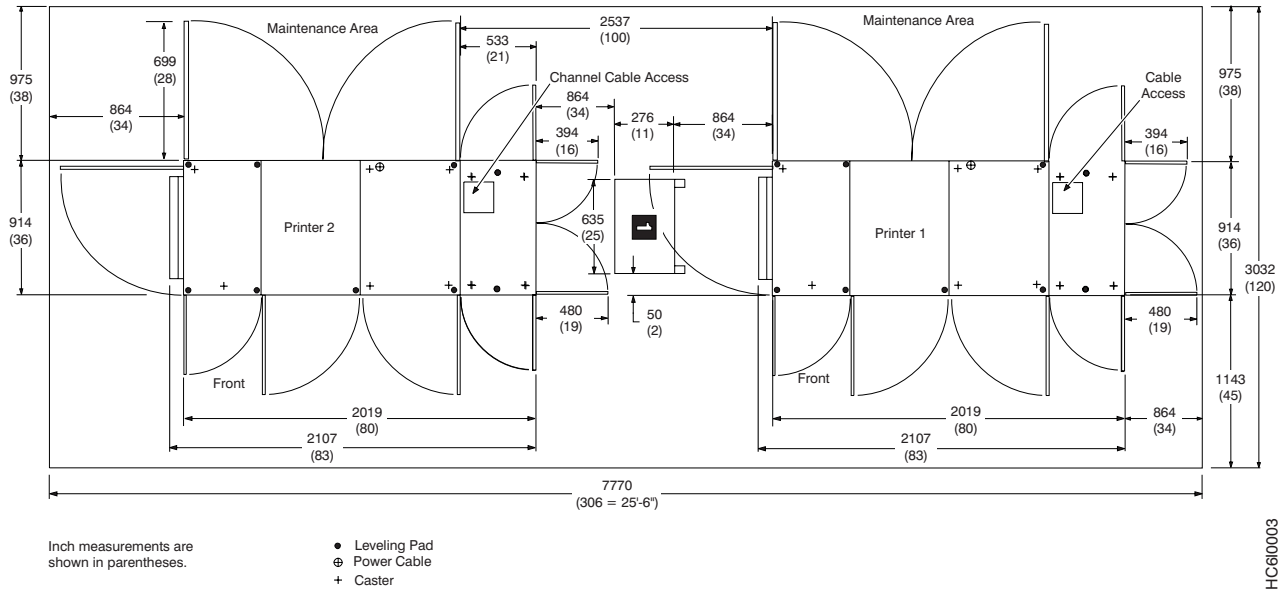
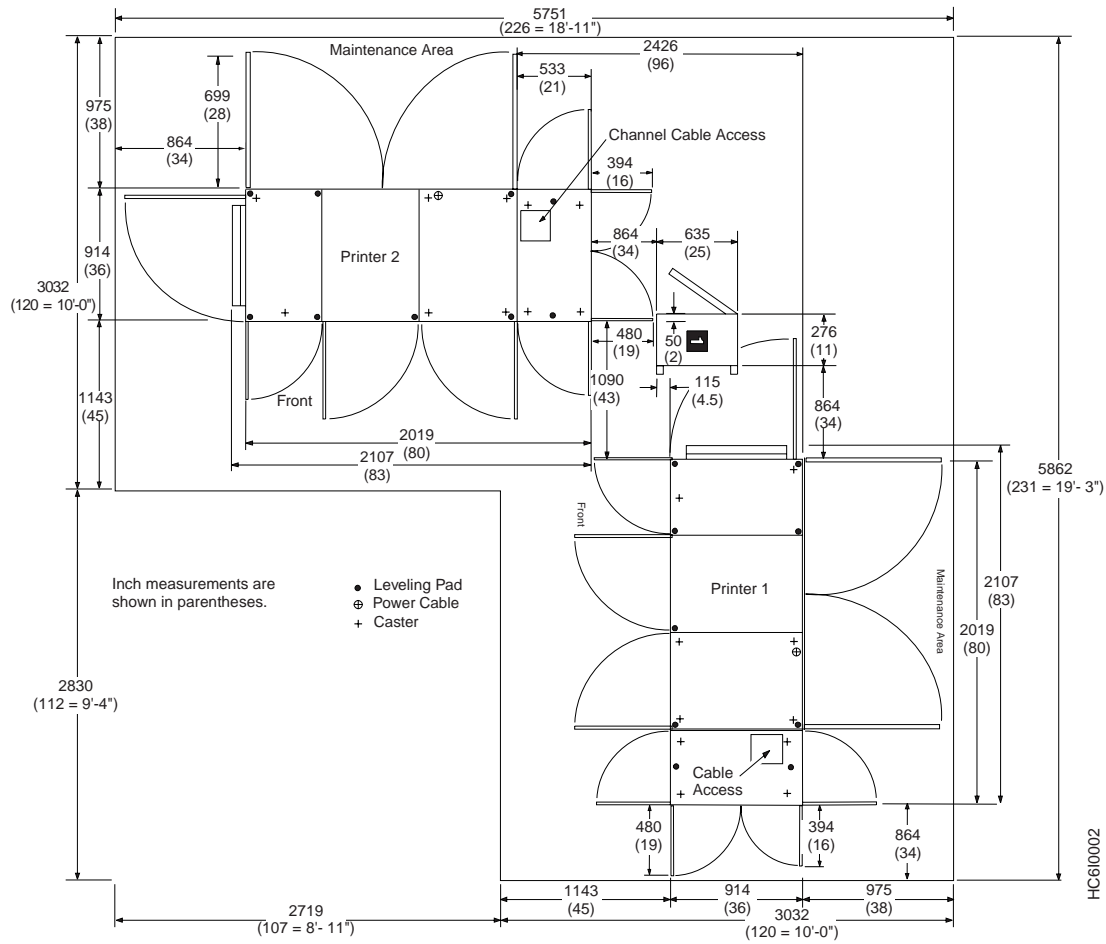

Figure 10. Models ED1/ED2 Inline Configuration
Figure 11. Models ED1/ED2 Left Angle Configuration
The dimensions of the Duplex Printing System and the Buffer/Flipper Unit **1**, the optimum separation of the units, the service clearance around the allowable configurations of these units, and the power cable and channel cable locations are shown in Figure 10 and Figure 11 on page 65 for Models ED1/ED2.
- Ensure that approved electrical outlets with correct power are reserved for the printer, and that they can be reached with the power cables. The approximate locations of the printer power cable and the channel cable areas are shown in Table 13 on page 63 for simplex printers and in Figure 10 on page 64 for duplex configurations.